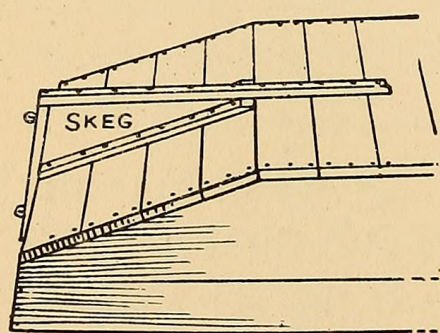

FIG. 451. — Attachment of Skeg.
**A Skeg** should be prepared for the sloping stern as shown in Fig. 451. This triangular piece may be cut out of 1-inch stuff and should be of the proper size so, when nailed in place, the lower edge will line up with the straight part of the bottom of the boat, and the end will